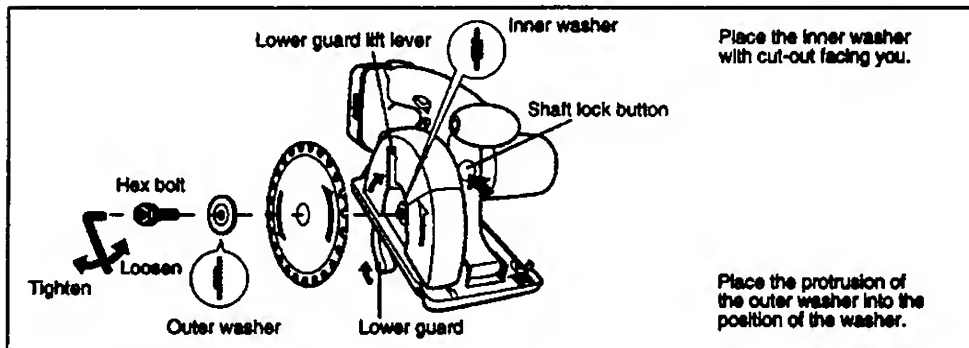

Fig. 13
4. Install the blade as illustrated in Fig. 13 (page 16). Make sure that both the direction arrow on the blade and the direction arrow on the upper blade cover point in the same direction.